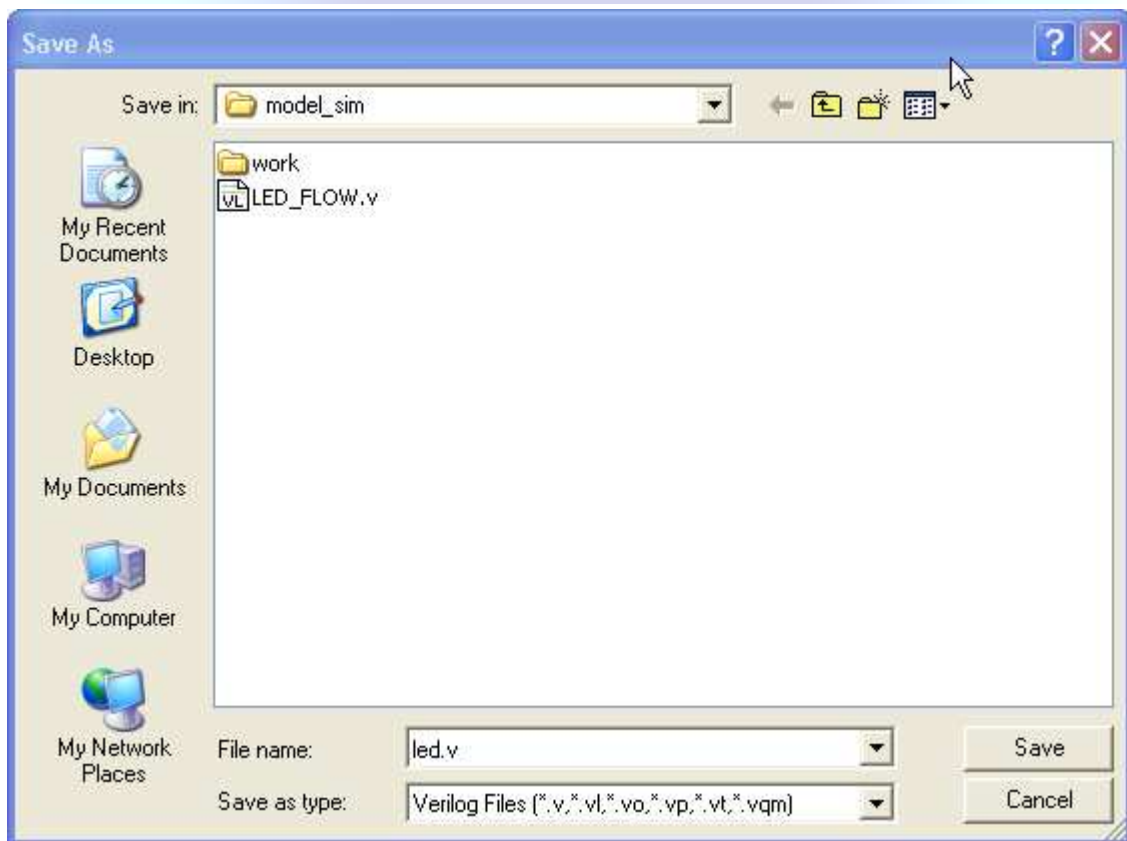

Figure 2.13. Save the led.v
7. Select **File > Save**, input the file name: led.v. Click **Save**. shown in Figure 2.13.